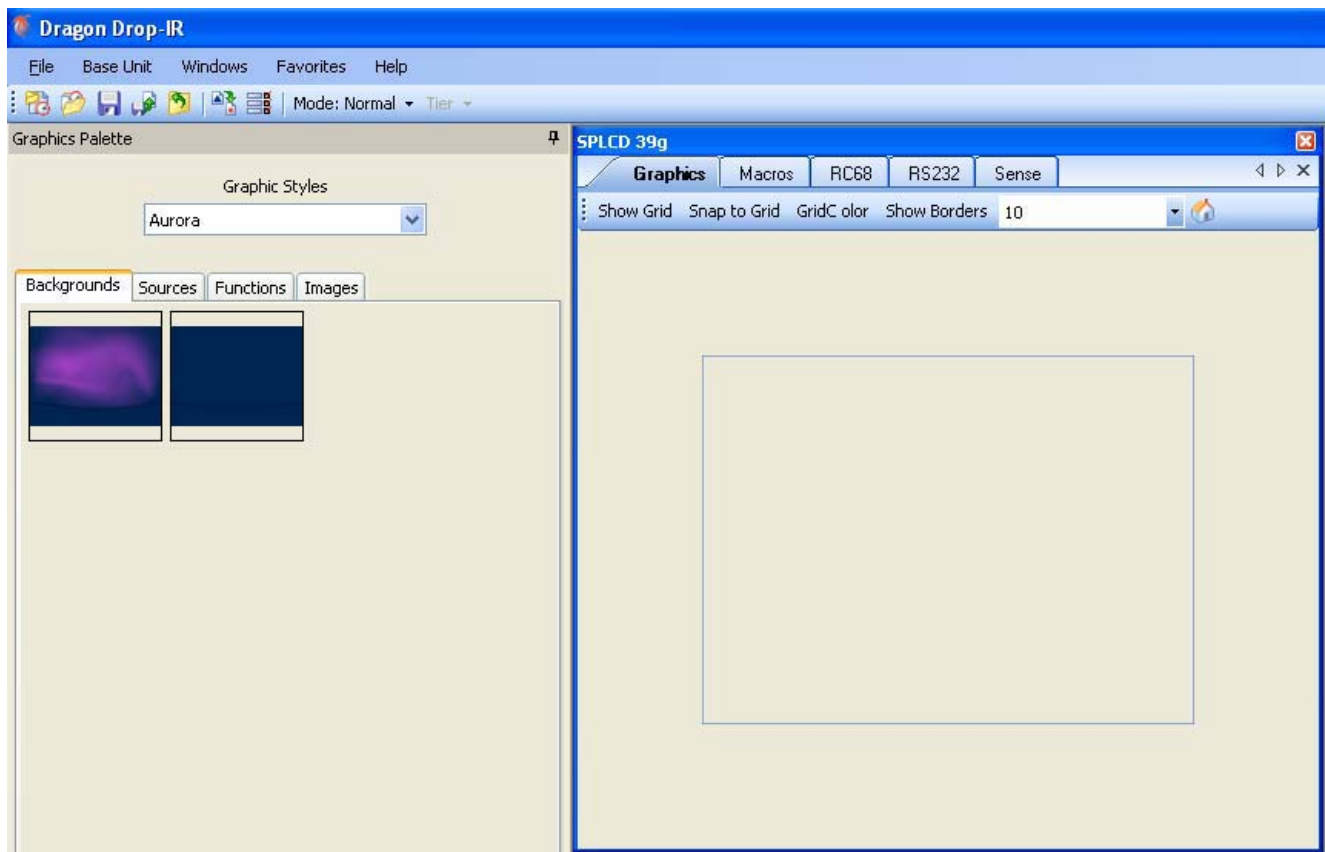

Figure 13 – CSPLCD Graphic Page Edit Screen
3. The SmartPad LCD System Window will appear in Graphics Mode as shown below in **Figure 13**. You may now begin programming the Graphic Screens.